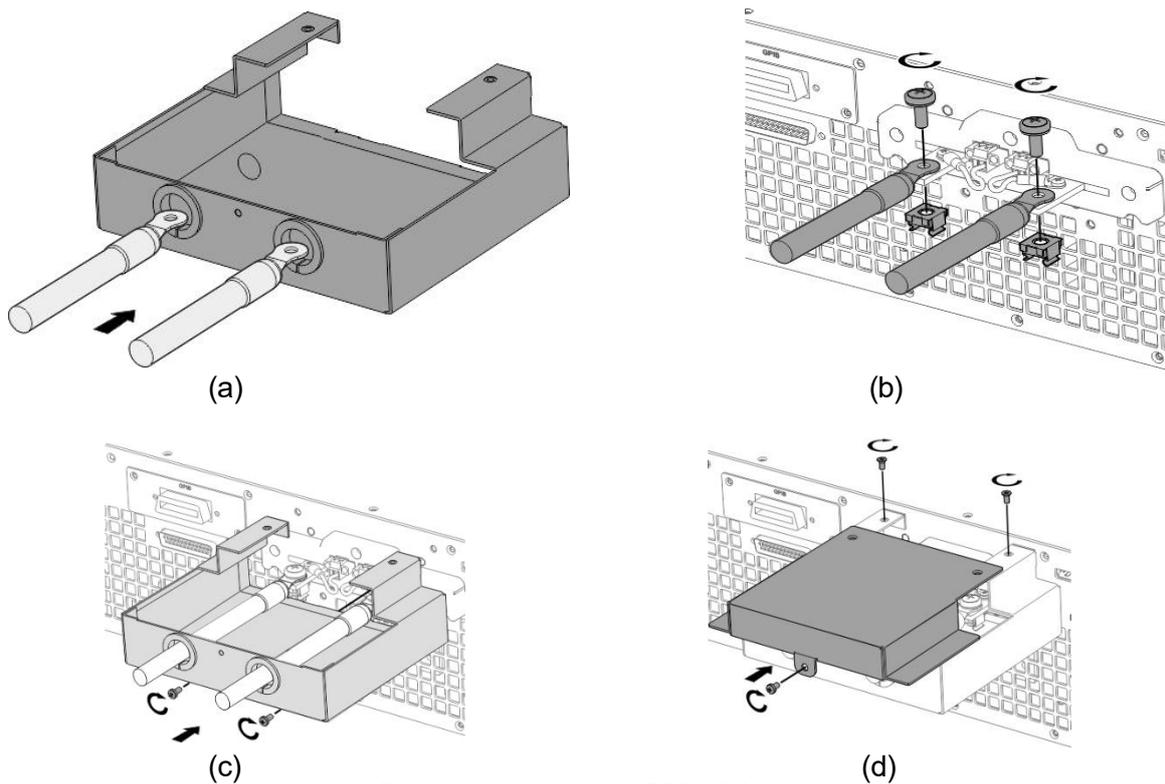

Figure 2-4 Assembly for 1200/1800V Models
- (1) The output terminal is located in the upper middle area on the rear panel.
- (2) The output cable must be rated to at least 85°C with a conductor sectional area of more than 38mm2.
- (3) Assembly ➡ follow Figure 2-4 (a)~(d) to execute the steps below:
For the models requiring a larger safety cover, a cable with a wider diameter is needed. To ensure the output terminal is not stressed assemble it as Figure 2-4 shows.
First, pass the wire through the bottom plate of the safety cover as Figure 2-4 (a) shows, then lock the wire to the output copper bar according to Figure 2-4 (b), and then lock the bottom plate of the safety cover to the rear panel as shown in Figure 2-4 (c), finally lock the upper cover according to Figure 2-4 (d).